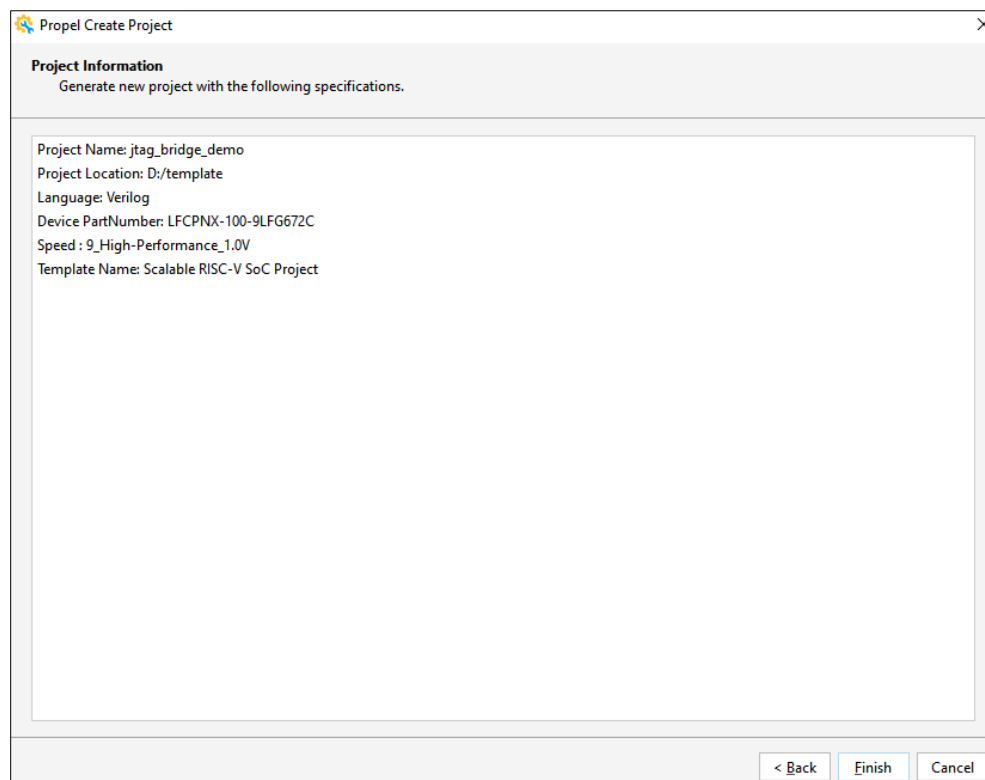

Figure 4.8. Finish the SoC Creation
7. Click **Finish**. The design is ready (Figure 4.8).